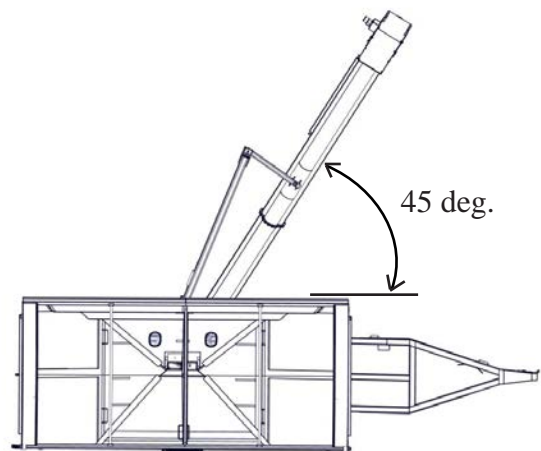

Figure 1.8
5. Rotate the conveyor to 45 deg. (Figure 1.8)
4. Rotate the conveyor to 45 deg. (Figure 1.8).